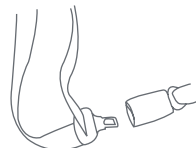

Fig. 18-2
- A lap/shoulder combination belt system with a latch plate that can slide freely along the belt is suitable for use with the Safety Seat if it includes a lockable retractor or if a locking clip is used to secure the lap belt into position and prevent loosening. Use the locking clip provided with the Safety Seat as instructed on page 43. **Please refer to your vehicle's owner's manual for additional information on locking this style of seat belt.** This style of belt must be locked to prevent movement of the Safety Seat (Fig. 18-2 & 18-3).